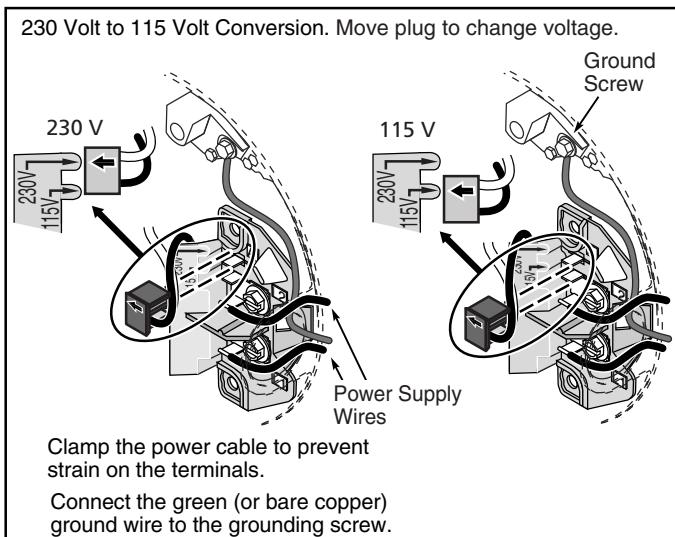

Figure 5: Motor wiring connection, Plug-in.
## To Convert 230 Volts to 115 Volts, Plug-in type (see Figures 5 and 6).
3. Connect the green (or bare copper) ground wire to the green ground screw first (see Figures 5 and 6). Use a solid copper wire at least as large as the power supply wires.
4. Pull the plug straight out from the terminal board, from 230 Volt socket (Figures 5 and 6).
1. Connect ground wire first. Connect the ground first, then to green grounding terminal provided under motor canopy (see Figure 5) identified as GRD. Make ground connection to this terminal. **Do not** connect motor to electrical power supply until unit is permanently grounded; otherwise serious or fatal electrical shock hazard may be caused.